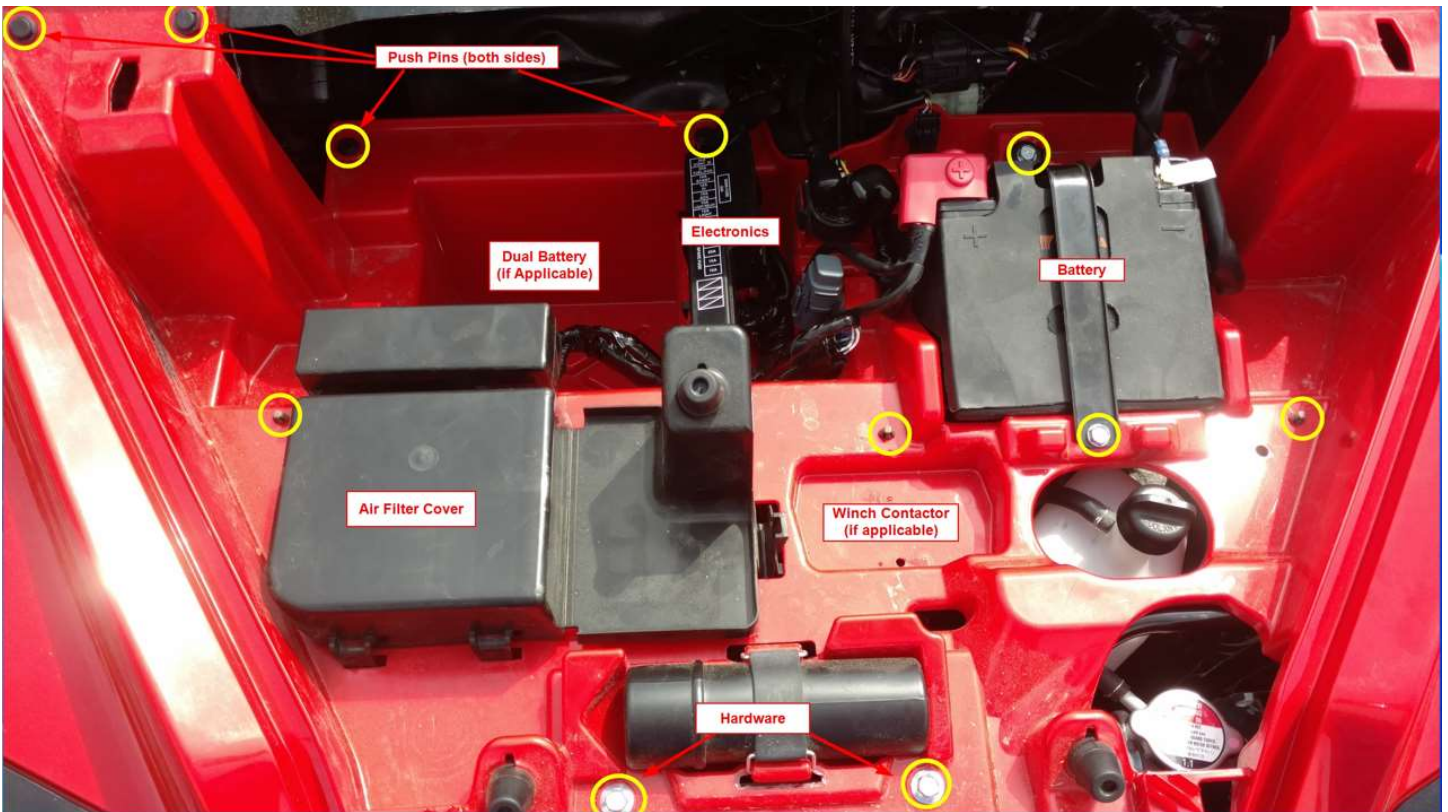

Figure 1
- b. Remove the Plastic Hood exposing the electronics bay as shown in Figure 1.
- c. Remove battery, air filter cover (**place a paper towel inside the air intake to keep foreign objects from entering**), remove push pins, electronics, winch contactor (if applicable) and hardware that hold the front plastic to the frame as shown in Figure 1. Note: not all push pins and hardware are shown.